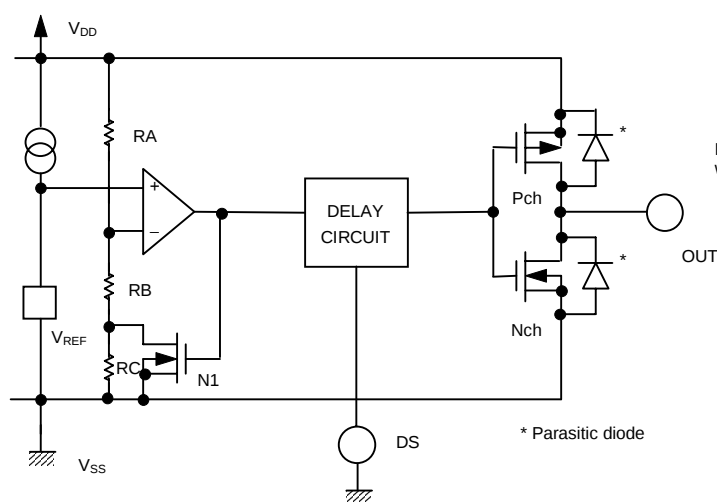
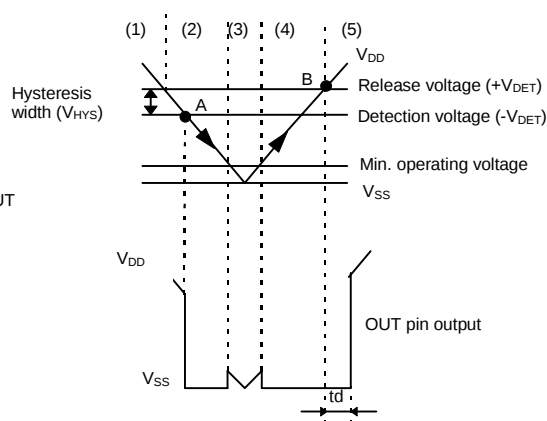

Figure 10 Operation 1
Figure 11 Operation 2
The hysteresis width is the voltage difference between the detection voltage and the release voltage ($B-A=V_{HYS}$ in Figure 11). By giving a device hysteresis, trouble such as noise at the input is avoided.
In applications where a resistor is connected to the voltage detector input (Figure 10), in the CMOS active low products for example, the through-type current generated when the output goes from low to high (release) causes a voltage drop equal to [through-type current] $\times$ [input resistance] across the resistor. When the resultant input voltage drops below the detection voltage $-V_{DET}$, the output voltage returns to its low level. In this state, the through-type current and its resultant voltage drop have disappeared, and the output goes back from low to high. A through-type current is again generated, a voltage drop appears, and the process repeats. This unstable condition is referred to as oscillation.
- (1) When power supply voltage V_{DD} is greater than the release voltage $+V_{DET}$, the Nch transistor is OFF and the Pch transistor ON, causing V_{DD} (high) to appear at the output. With the Nch transistor N1 of Figure 10 OFF, the comparator input voltage is $(RB+RC)/(RA+RB+RC) \times V_{DD}$.
- (2) When power supply voltage V_{DD} goes below $+V_{DET}$, the output maintains the power supply voltage level, as long as V_{DD} remains above the detection voltage $-V_{DET}$. When V_{DD} does fall below $-V_{DET}$ (A in Figure 11), the Nch transistor goes ON, the Pch transistor goes OFF, and V_{SS} appears at the output. With the Nch transistor N1 of Figure 10 ON, the comparator input voltage is $RB/(RA+RB) \times V_{DD}$.
- (3) When V_{DD} falls below the minimum operating voltage, the output becomes undefined. However, output will revert to V_{DD} if a pull-up has been employed.
- (4) V_{SS} will again be output when V_{DD} rises above the minimum operating voltage. V_{SS} will continue to be output even when V_{DD} surpasses $-V_{DET}$, as long as it does not exceed the release voltage $+V_{DET}$.
- (5) When V_{DD} rises above $+V_{DET}$ (B in Figure 11), the Nch transistor goes OFF, the Pch transistor goes ON, and V_{DD} appears at the output. Then V_{DD} at the OUT pin appears with delay time(t_d) due to delay circuit.
The delay circuit outputs the signal delayed from the release voltage ($+V_{DET}$) point of the power voltage V_{DD} rising. The output signal is not delayed when the V_{DD} goes down the detection voltage ($-V_{DET}$) or less. (See Figure 11).